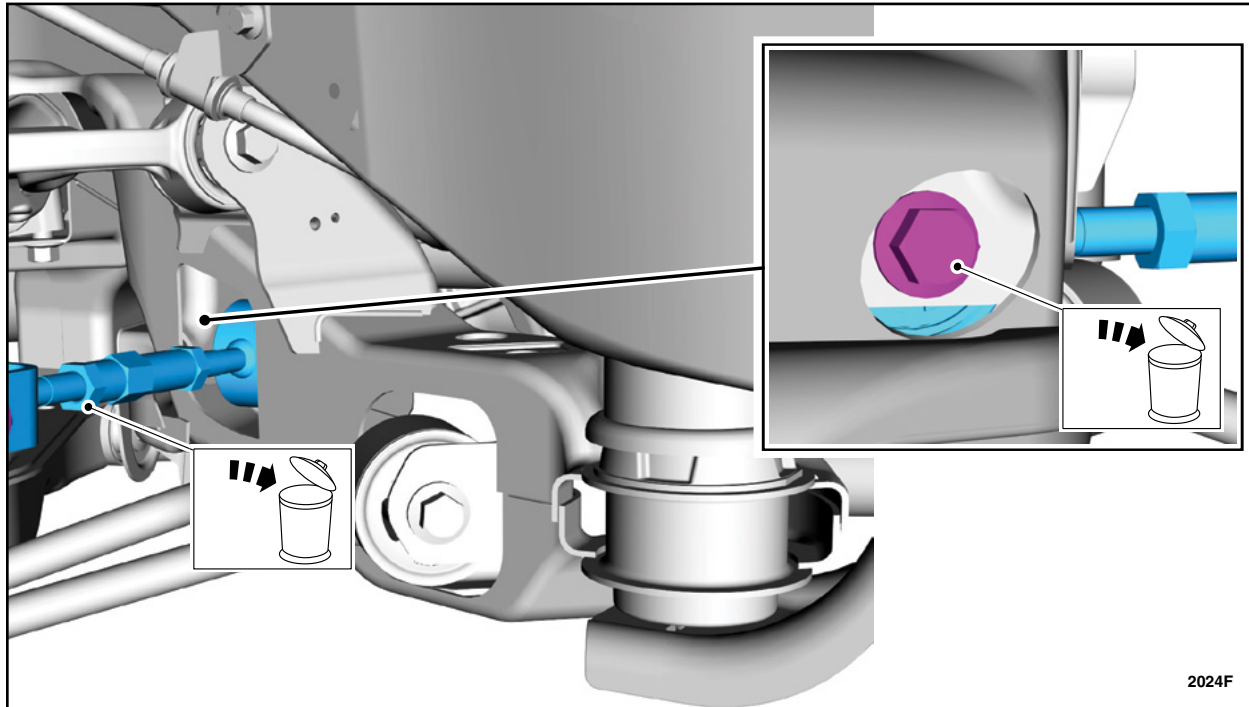

FIGURE 8
13. Remove and discard the toe link to subframe bolt and the toe link. See Figure 8.